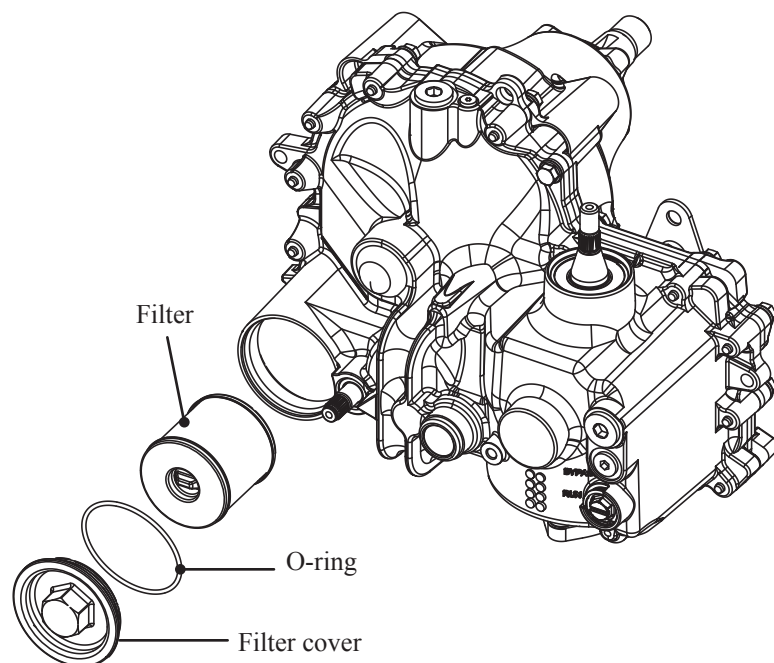

Figure 3a, Filter Components
3. Install a new filter and a new O-ring onto the filter cover and install the filter cover. See Figure 3a. See page 15 for torque specifications.